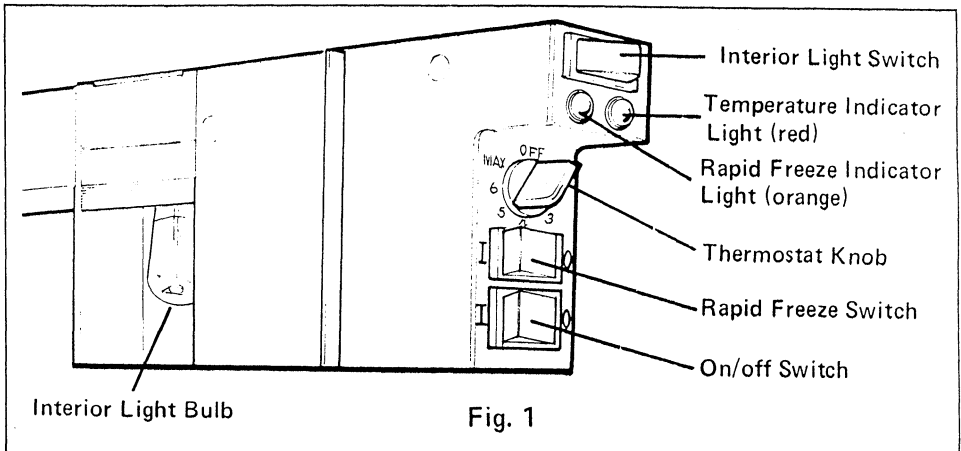

Fig. 1
To start the freezer, switch on at the wall socket, turn the thermostat knob to setting No. 4, then depress the on/off (lower) switch inside the cabinet to 'I' (ON) — see Fig. 1.
The temperature indicator light is red and will start flashing as soon as the freezer is connected to the electricity supply and the freezer on/off switch (fig. 1) is switched on. When the temperature inside the freezer approaches the correct level for the thermostat setting being used, the light will stop flashing and remain on continuously.
- b) Is the freezer on/off switch (fig. 1) switched on?
When fresh food is to be frozen, depress the rapid freeze switch to 'I' (ON) – see fig. 1, an hour or two before the food is ready to be placed in the freezer. The orange light will glow as a reminder that the rapid freeze switch is in use.